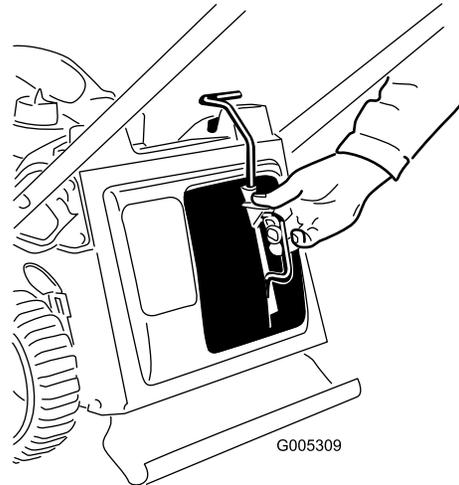

Figure 9
2. Squeeze the button on the lever with your thumb, and fully insert the mulch plug into the opening (Figure 9).